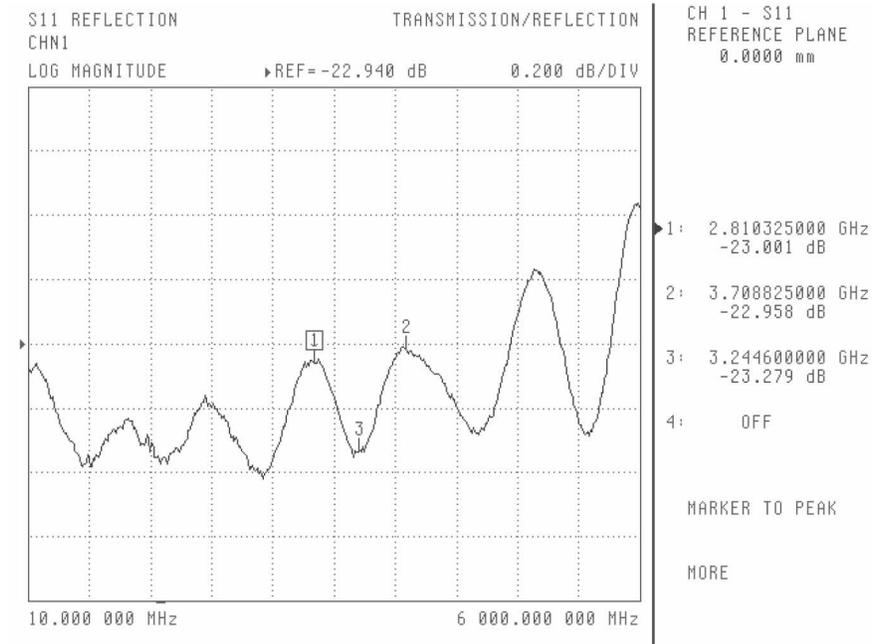

Figure 3-2. Return Loss Measurement Display
Step 11. Using the rotary knob, position Marker 1 and Marker 2 to adjacent peaks of the ripple with the greatest negative trough (or adjacent troughs if the ripple has the greatest positive peak). Also, position Marker 3 to the bottom of the trough (or the top of the peak if the ripple has the greatest positive peak). Refer to Figure 3-2 below.